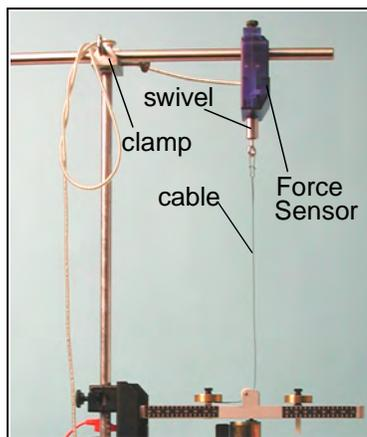

Figure 5a: Mounting the Force Sensor
- Attach a Multi-Clamp to the upper end of the stainless steel rod. (Figure 5a).
- Slide a Force Sensor through the stainless steel rod and adjust the top screw to anchor it to the rod (Figure 5a). (Note: Be sure to keep the cords from the sensor out of the path of the rotating arm.)